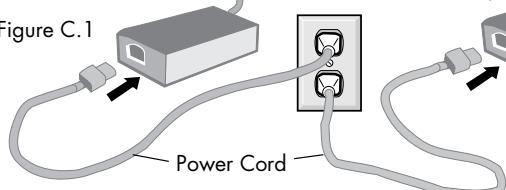

Figure E.1
4. Connect one end of the power cord to the AC Adapter and the other end to the power outlet (**Figure E.1**).